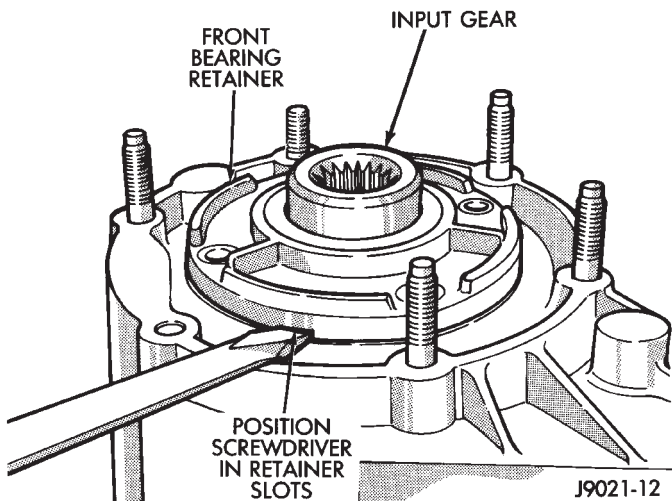

Fig. 23 Removing Front Bearing Retainer
(35) Remove front bearing retainer. Position screwdrivers in retainer slots and lift upward to loosen and remove retainer (Fig. 23).